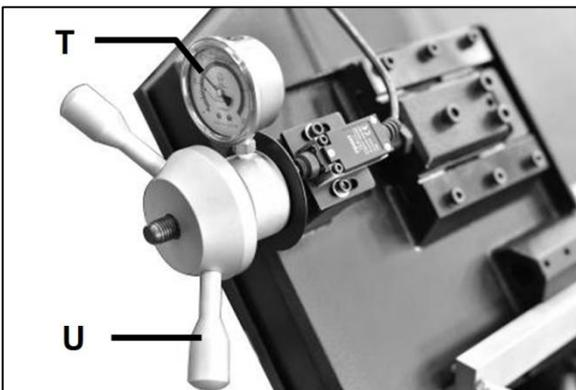

Figure 8-4: Blade tension gauge
Blade tension is indicated on the Blade Tension Gauge (T, Fig 8-4). Turn the tension lever (U) clockwise until proper blade tension is reached (green colour).